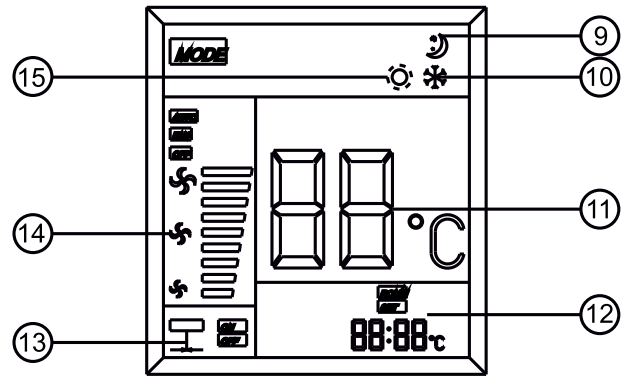

Fig. 2
Display (Fig. 2):
Switch on the temperature controller by pressing the power button (2). Press the fan speed selection button. The display will show one of the characters (14 in Fig. 2) or AUTO. This means that the fan will rotate at HI (high), MED (medium), LOW or AUTO (automatic mode) speed. If AUTO mode is selected, the fan speed will vary according to the difference between the actual room temperature and the set temperature. If the room temperature is more than 3 degrees above the set temperature when cooling or more than 3 degrees below the set temperature when heating, the fan will run at its highest speed. If the room temperature is 2-3 degrees higher than the set temperature for cooling or 2-3 degrees lower than the set temperature for heating, the fan will run at medium speed. If the room temperature is 0-1 degrees above the set temperature when cooling or 0-2 degrees below the set temperature when heating, the fan will run at low speed.
Set the heating operation with the mode button (15 in Fig. 2). Press "+" to increase the control temperature value. If the room temperature is lower than the set temperature, the heating system will start. Press "-" to decrease the control temperature value. If the room temperature is higher than the set temperature, the heating system will stop.
Set the cooling operation with the mode button (10 in Fig. 2). Press "-" to decrease the control temperature value. If the room temperature is higher than the set temperature, the cooling system will start.
Press the button to switch to the night mode (5 in Fig. 1). The night mode symbol (9 in Fig.2) appears. This mode will be active for 8 hours and the temperature controller will control heating or cooling according to the schedule below. Press the night mode button again, the corresponding symbol will disappear, which means that the night mode is cancelled.